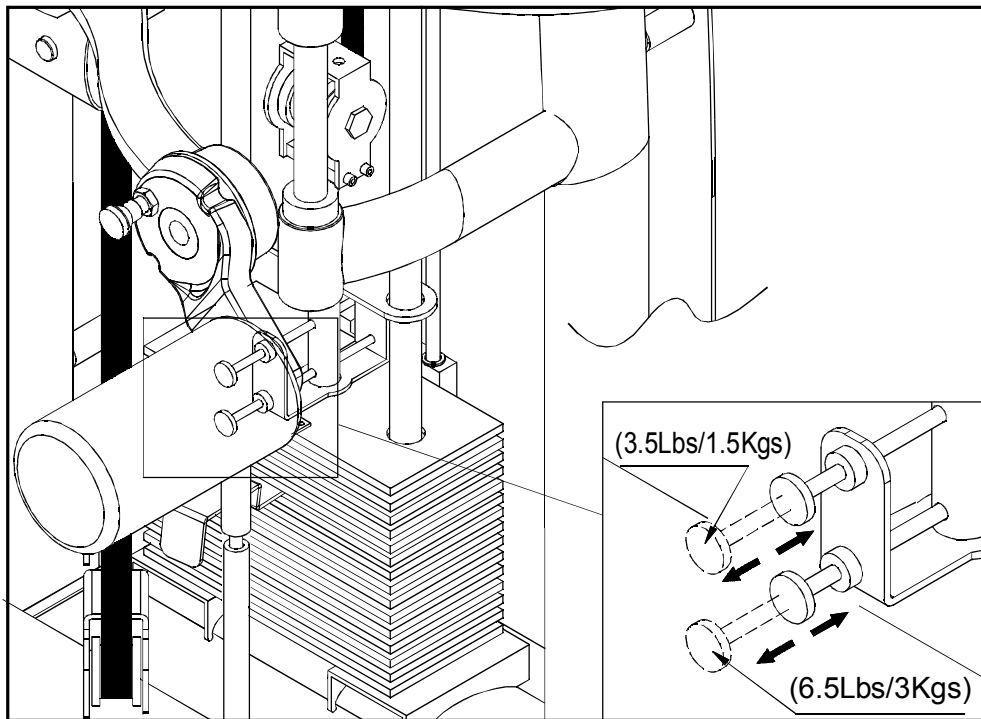

Fig.4
2. Pull the pin to release the weight. (See fig.4)